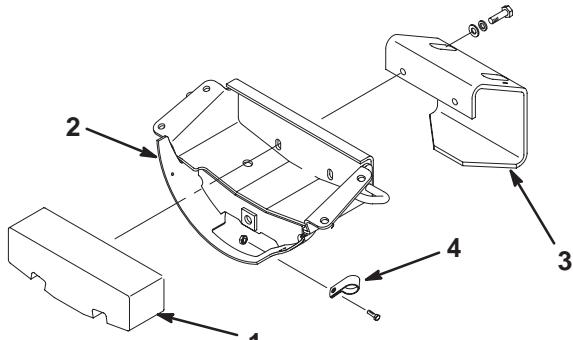

Figure 4
1. Remove 2 capscrews (1/2 x 3/4 in.), lock washers, and flat washers securing rear weight to axle support (Fig. 4).